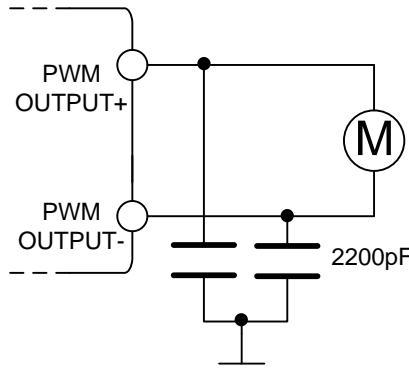

Figure 9. Snubber Circuit
(4) The second way is to add a capacitor of around 2200 pF between each output and the ground. In this case, ensure that the GND wiring should not have any common impedance with other signals. (Figure 9.)